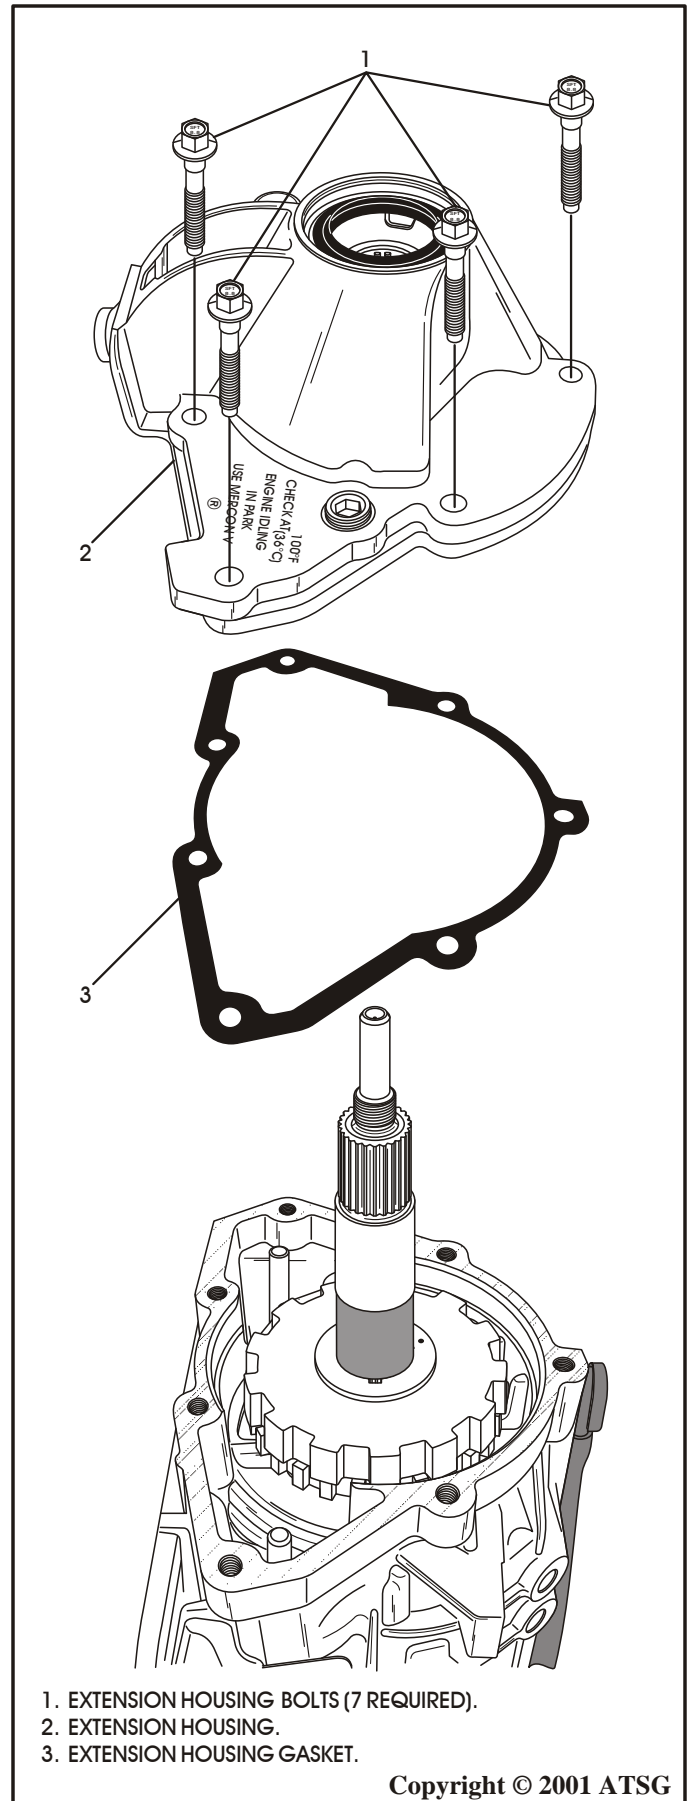

Figure 25
10. Remove the seven extension housing retaining bolts, using a 10mm socket (See Figure 25).
11. Remove the extension housing and discard the gasket, as shown in Figure 25.